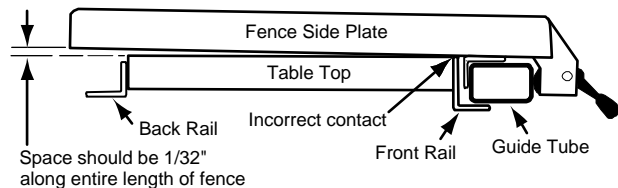

Figure 16
1. Figure 16 shows a fence where misalignment of the side plates has occurred; the side plates are in contact with the front edge of the table saw top.